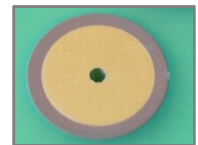

Figure 2
- If higher strength is required, there are some simple ways of improving the stability of the pad. The simplest way is to create the copper area larger than the solder pad. The larger contact area to the FR4 material achieves greater stability (Fig. 2).